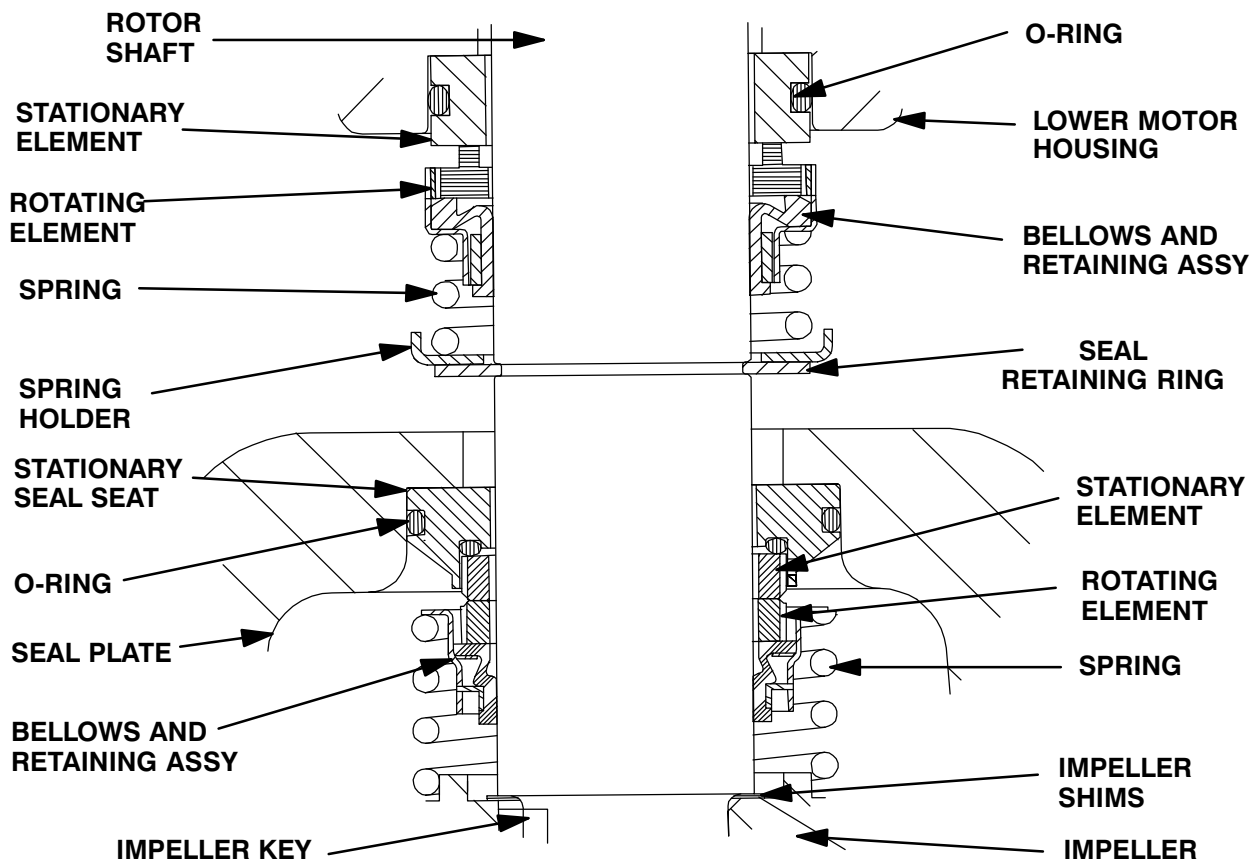

Figure C-3. Upper And Lower Seal Assemblies
Install the shaft seals as illustrated in Figure C-3.
Slide the seal spring over the shaft and bellows retainer, and install the spring holder (32). Install the seal retaining ring (33). See Figure C-3 for the proper order of seal assembly.
Slide the seal spring over the shaft and bellows retainer. See Figure C-3 for proper order of seal assembly.